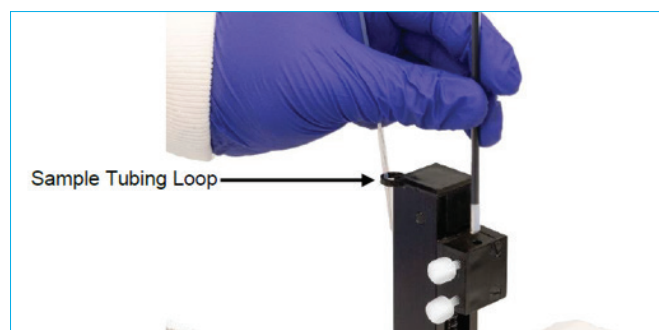

Figure 13: Installing the sample probe.
3. Route the sample tubing through the loop on top of the Z-drive, as shown in figure 13.